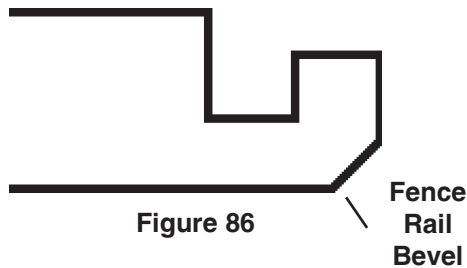

Figure 86
8. Lay a Straightedge across the bevel of both Rails. (Figure 86). If adjustment is needed, loosen (1/2 turn) the four Bolts holding the Extension Table to the Extension Table Base. Tap the Extension Table forward or backward until the bevel of the Fence Mounting Rails are aligned. Retighten the Bolts by turning each a small amount until all four are secure. Check the alignment.